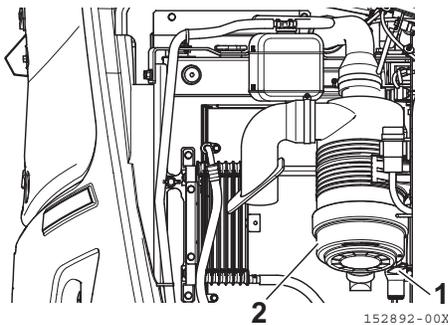

Fig. 8-45
2. Pull down the lever (Fig. 8-45, 1) to remove the dust cup (Fig. 8-45, 2).
4. Clean the dust cup (Fig. 8-45, 2) and the inside of the body.
9. Install the dust cup (**Fig. 8-45, 2**) so that the arrow mark will come on the front side and turn it clockwise. Push the lever (**Fig. 8-45, 1**) of the dust cup (**Fig. 8-45, 2**) to fix.